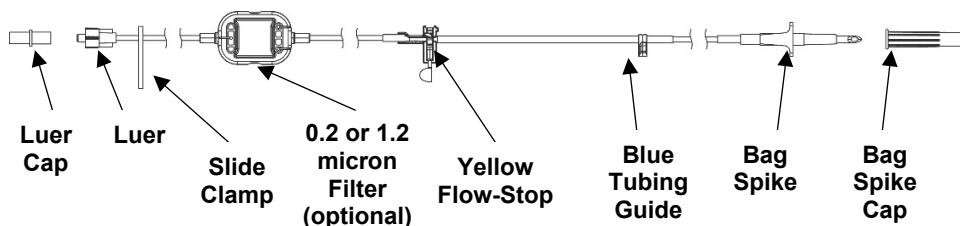
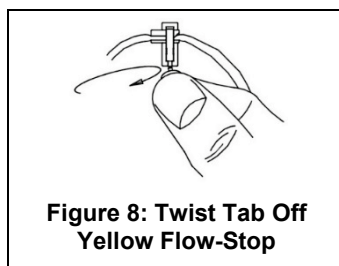
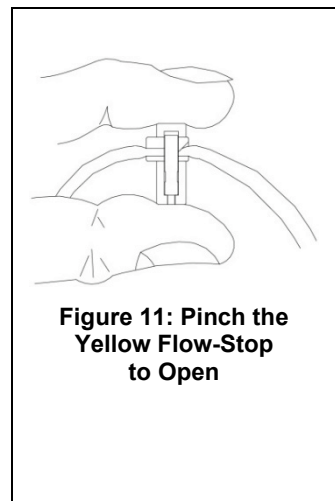

Figure 7: Example Administration Set
Figure 8: Twist Tab Off Yellow Flow-Stop
Figure 11: Pinch the Yellow Flow-Stop to Open
Figure 7 is an example of an administration set. Yours might look slightly different, but will have most of the labeled parts. (Not all administration sets include air eliminating filters.)
4. Twist and break off the tab on the yellow flow-stop. See Figure 7 and Figure 8.
3. Pinch the yellow flow-stop between your thumb and forefinger to allow the fluid to flow. See Figure 7 and Figure 11.
6. Close the slide clamp. See Figure 7.
- Ensure that you are pressing down on top of yellow flow-stop to the open position (see Figure 11).
1. Ensure that the slide clamp is closed. See Figure 7.
2. Remove the luer cap on the administration set (see Figure 7).